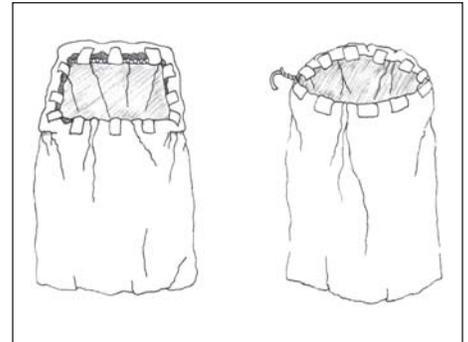

Figure 1 Tape a garbage bag to a ring of cardboard or a bent coat hanger
1. Tape the mouth of the garbage bag to a bent coat hanger or a homemade ring of cardboard to keep it open (see Figure 1).